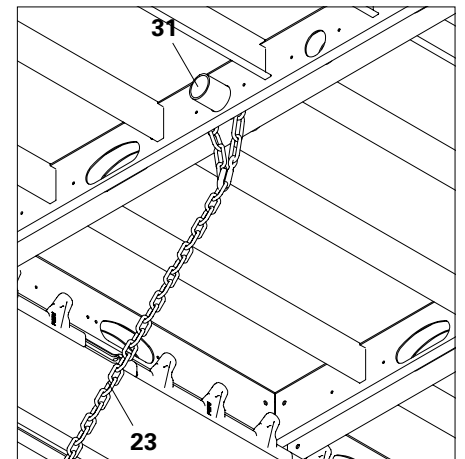

Fig. A7.03a
- In the transverse direction, connect panels to scaffold tube (31). Wrap Chain (23) around the scaffold tube. (Fig. A7.03a)